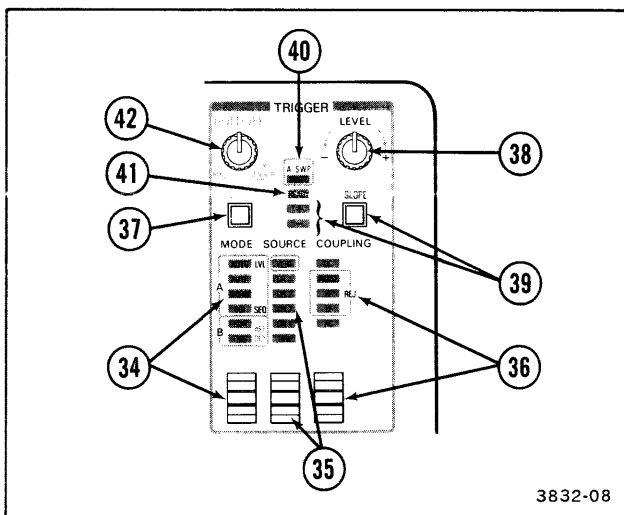

Figure 2-6. Trigger controls and indicators.
Refer to Figure 2-6 for location of items 34 through 42.